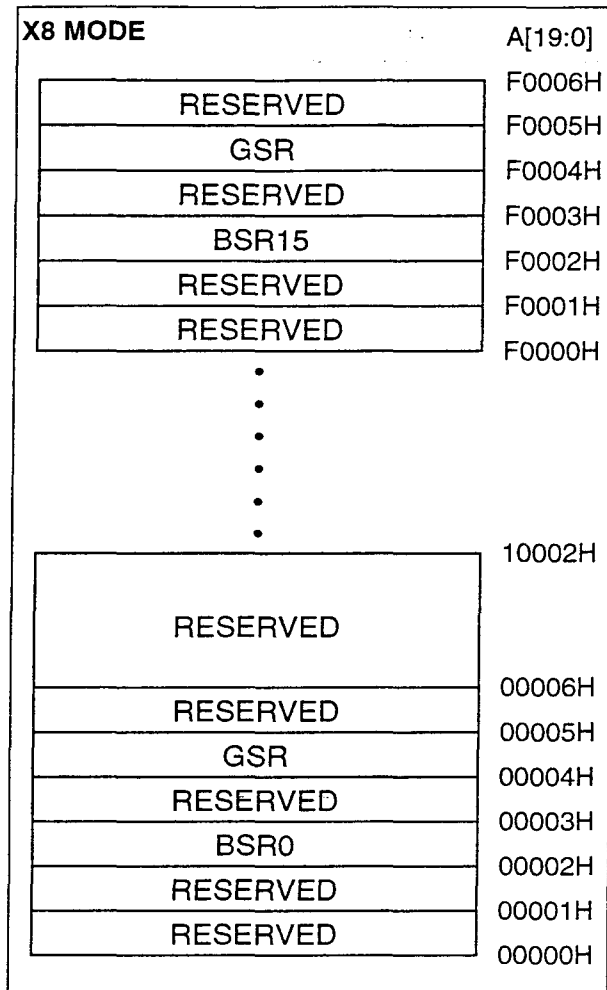

Figure 4.1 Extended Status Register
The GSR and BSR memory maps for Byte-Wide and Word-Wide modes are shown in Figures 4.1 and 4.2.
1. RA can be the GSR address or any BSR address. See Figure 4.1 and 4.2 for Extended Status Register Memory Maps.